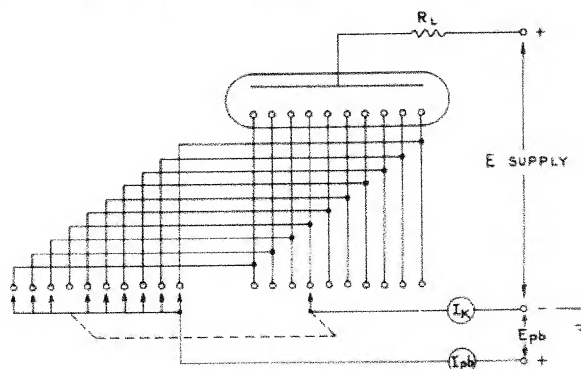
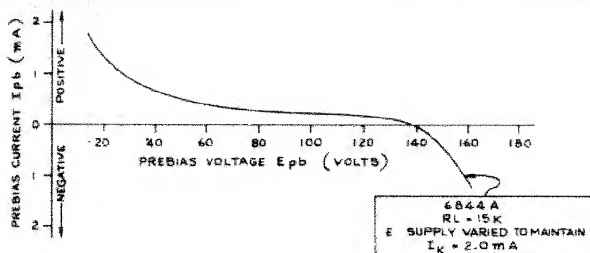

Figure 3—Basic Nixie Tube Pre-Bias Circuit
Figure 4—Pre-Bias Voltage vs. Current Characteristics of the Type 6844A Nixie Tube
**PRE-BIAS:** Voltage swings lower in amplitude than the recommended minimum supply voltage can be used to operate Nixie tubes by pre-biasing the "off" cathodes as seen in Figure 3. Pre-bias voltage is defined here as the potential difference between the "on" cathode and the "off" cathodes. The curve in
Figure 4 indicates how the current of the "off" cathodes varies as the pre-bias voltage varies. The circuit in Figure 3 can be used to observe the effects of pre-bias. As shown, if the "off" cathodes' voltage is raised above the anode voltage (B+ minus drop across  $R_L$ ), they will take over as the anode and accept electron current. The anode and series anode resistor would then lose control of limiting the "on" cathode's current. Figure 4 also shows that as the "off" cathodes' voltage is lowered below the anode voltage, they will accept ion current. If this ion current is excessive, all of the "off" cathodes will become visible as a background haze. From this discussion it can be seen the upper limit of the pre-bias voltage is less than the lowest anode voltage